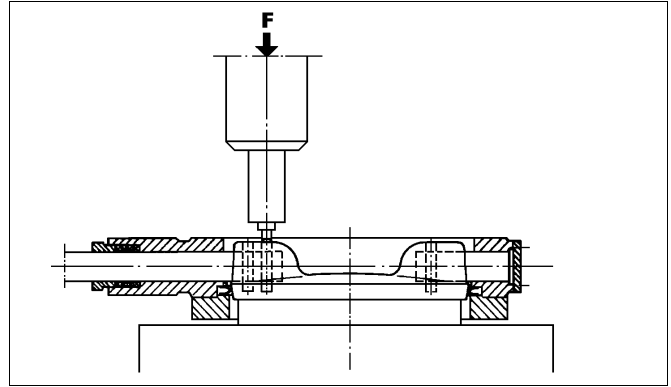

Fig. 17. Pressing the pins
- ❑ Support the disc well in a horizontal position during mounting of the pins. Push the new pins into the holes and press them in a press to final form (see Fig. 17). Use a smaller tool than the pin diameter. See Table 5 for force needed.